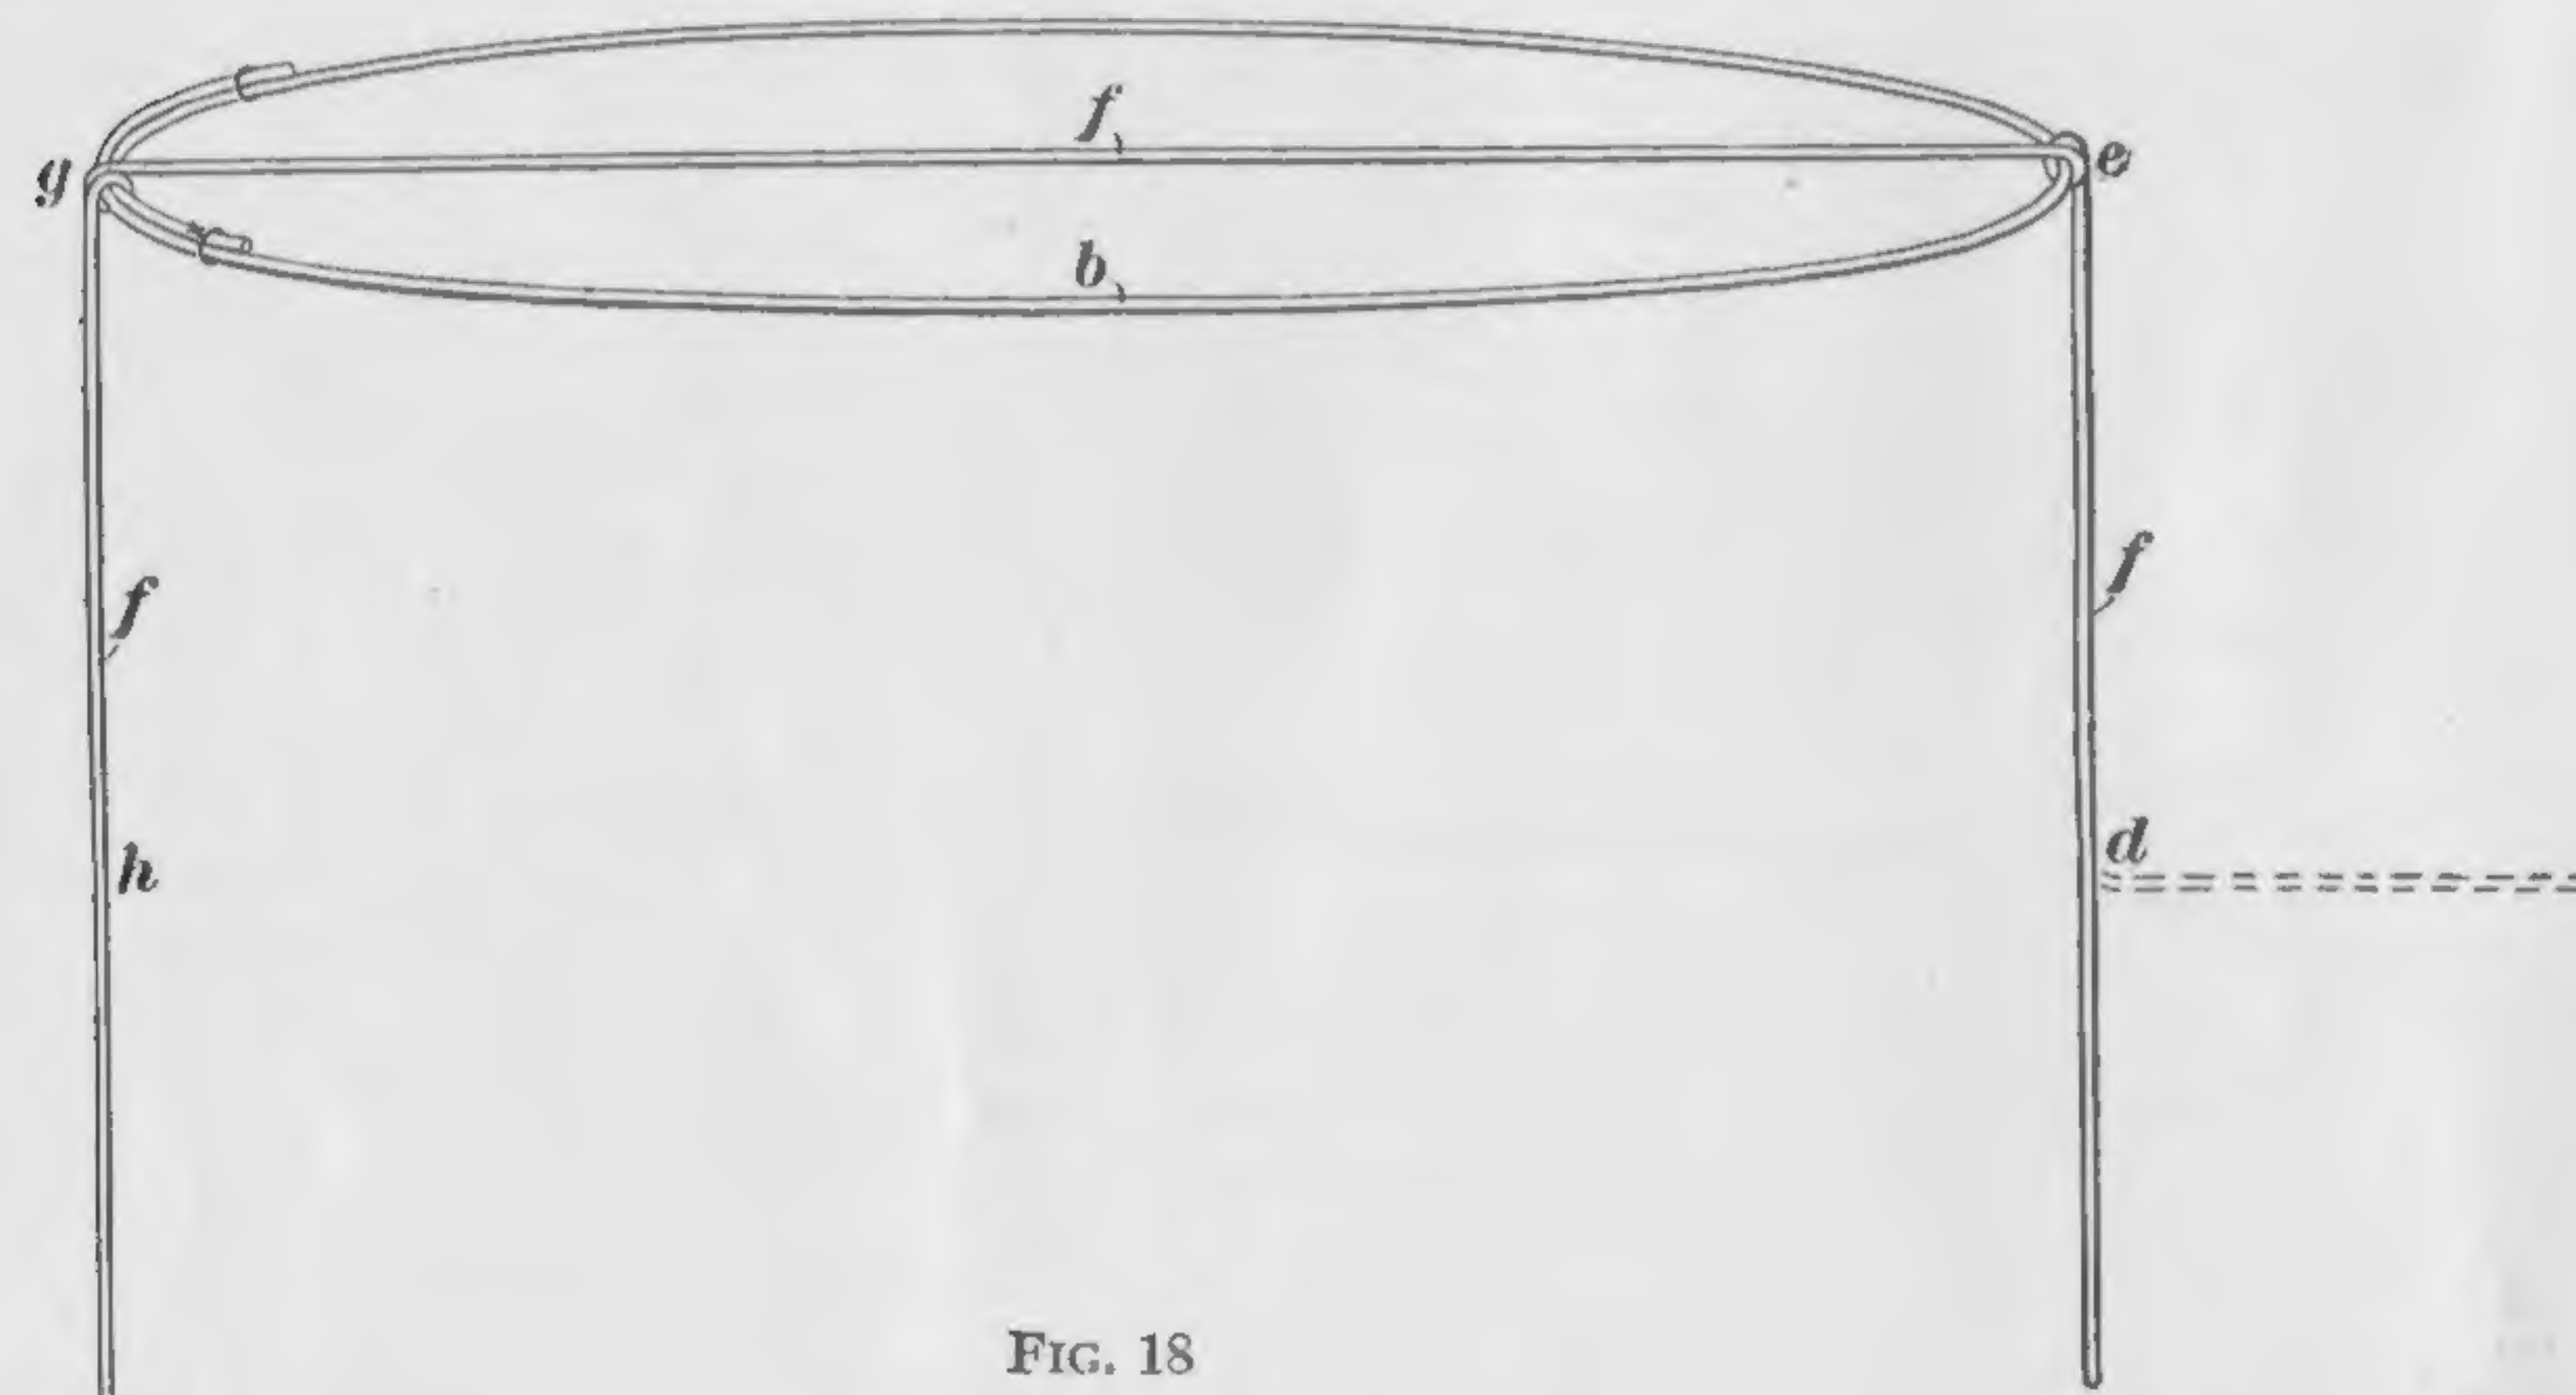

FIG. 18
Fig. 17, is 3 in. The support wire *f* from back to front should be attached first. The length *eg* is $8\frac{1}{2}$ in., and the distances *de* and *gh* are each 3 in. long. But, the wires *de* and *gh* must be longer than 3 in. to give ends long enough so that the twists at *d* and *h* can be made easily; hence, each end would be made 5 in. long. Then, the length of the wire *f* would be $5 + 8\frac{1}{2} + 5 = 18\frac{1}{2}$ in. Cut off this length of No. 21 brace wire and at each end bend down a piece 5 in. long. Lay this across the top brace wire *b* from *e* to *g* and twist each end once around the wire *b*. The crown will then appear as shown in Fig. 18. Cut a strip of paper exactly 3 in. long to use as a gauge, measure off the height of the crown from *e* to *d* and bend the wire *f* outwards at *d*, as shown by the dotted line; then do the same thing at *h*.
25. Next, prepare the support wire *i*, Fig. 17. The distance *jk* from side to side is 7 in., and each end must be 5 in. long, including the allowance for bending; hence, the wire *i* must have a length of $5 + 7 + 5 = 17$ in. Cut off a piece of brace wire 17 in. long and bend down a piece 5 in. long at each end. Lay this across the top brace wire *b* between the middle points of the sides, or from *j* to *k*, and give each end a complete turn around the wire *b*. Using the 3-in. strip of paper as a gauge, turn up the ends at *l* and *m*, as was done with the wire *f* in Fig. 18. Then take the head-size wire *a*, Fig. 17, set it into the bends *l* and *m* of the support wires, and give the end of each support wire a full turn around the head-size wire. Then cut off the ends close to the head-size wire. Proceed in the same way with the ends of the support wire *f* at *d* and *h*.